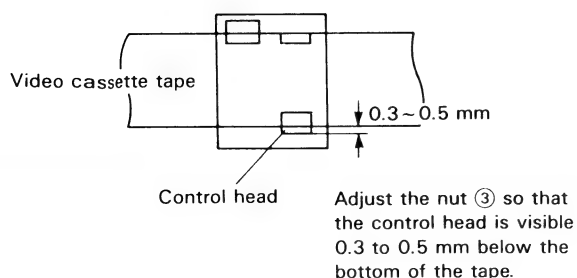

Figure 1-19.
#### ● Replacement (See Figs. 1-19 and 1-20.)
7. Play an alignment tape and roughly adjust the height of the A/C head, visually, by turning the A/C head adjusting hexagon nut ③ with the box driver (JiGDRIVER110-7) until the tape comes to the position shown below. (See Fig. 1-19.)